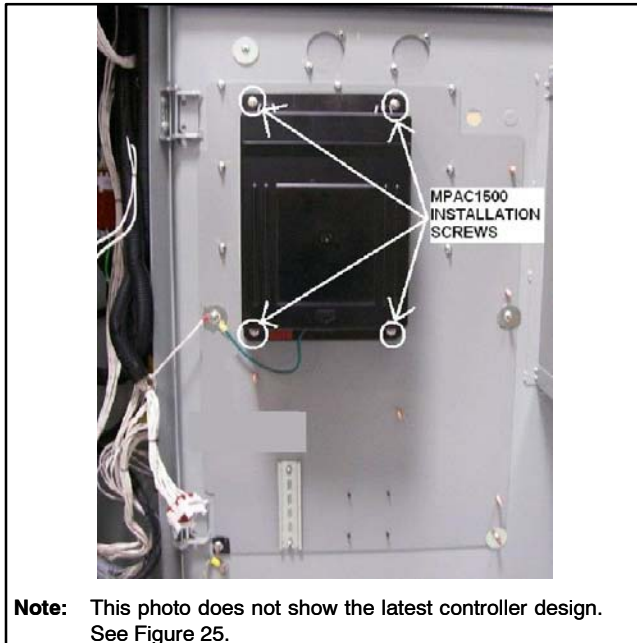

Figure 26 Controller Assembly Installation
20. Install Decision-Maker® MPAC 1500 controller assembly GM85884-4 onto the conversion kit mounting plate using four nuts X-6210-2. See Figure 26.